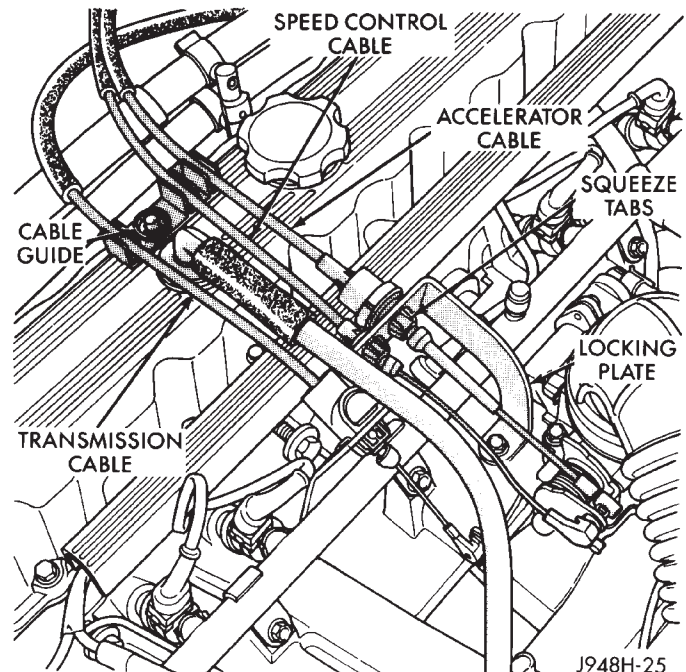

Fig. 39 Cable Guide and Squeeze Tabs—Typical
- (4) Remove cable from cable guide on engine cylinder head (valve) cover (Fig. 39).
- (6) Remove throttle cable from throttle body mounting bracket by compressing squeeze tabs (Fig. 39) and pushing cable through hole in bracket.
- (7) Remove throttle cable from vehicle.